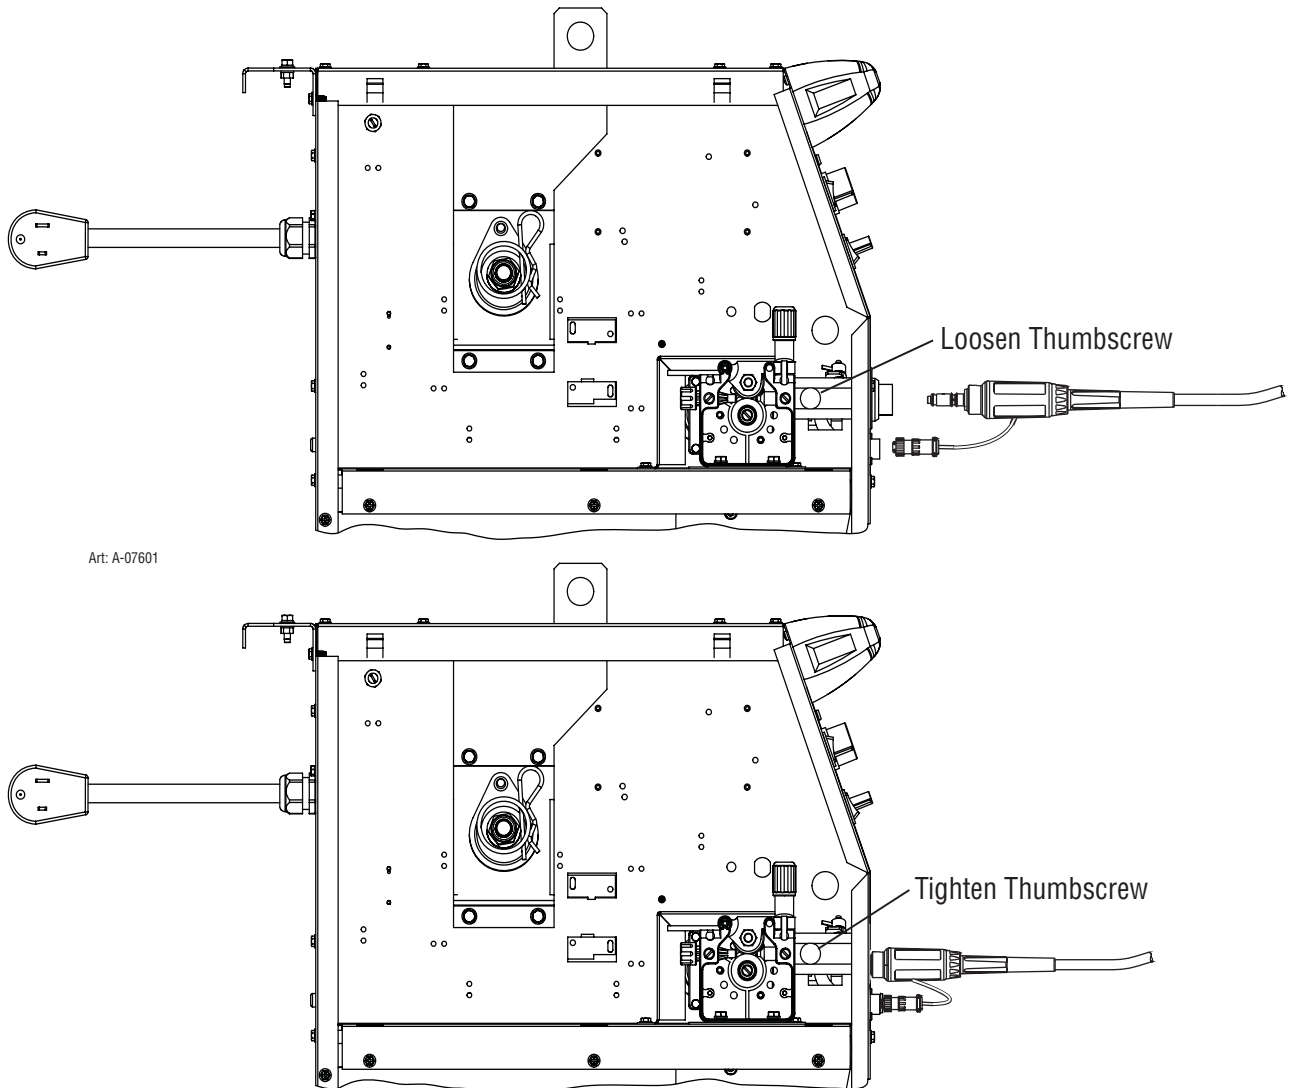

Figure 3-5: Mount Gun Cable to Adapter Socket
- 3) Loosen the thumbscrew and insert the gun cable end as far as it will go. Tighten thumbscrew. Refer to Figure 3-5.